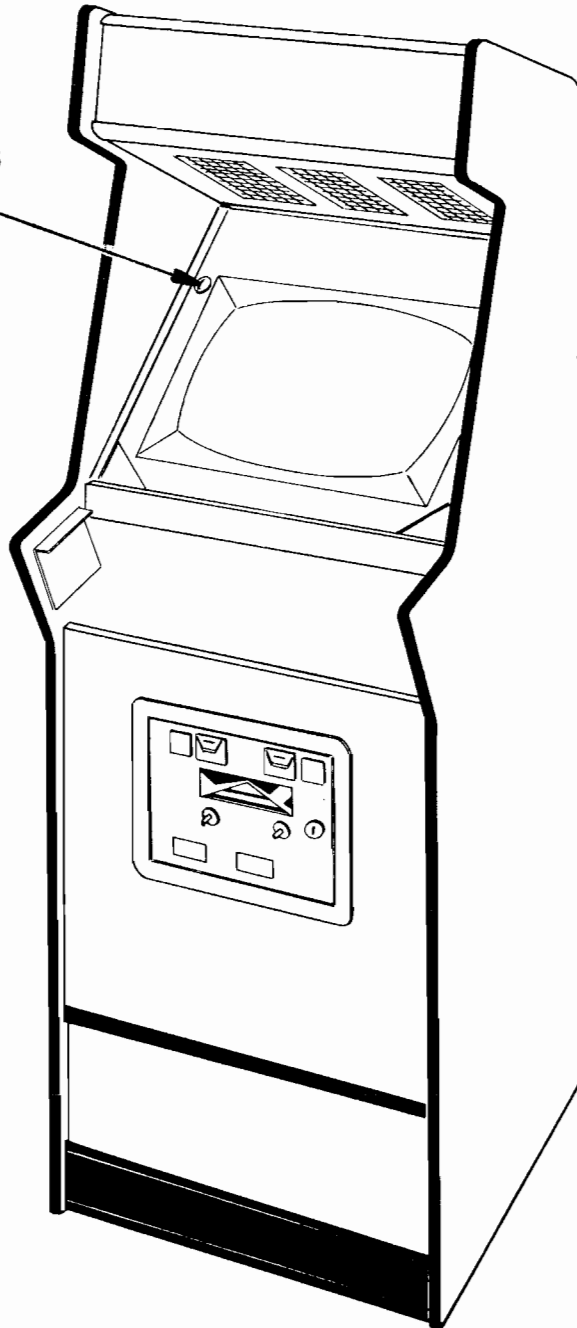

FIG.16
- b. Remove the screws which secure the glass clamping plate. See Figure 16.
- d. By putting your finger in the hole in the center of the main-display-glass support, you can lift it up and out. See Figure 16.